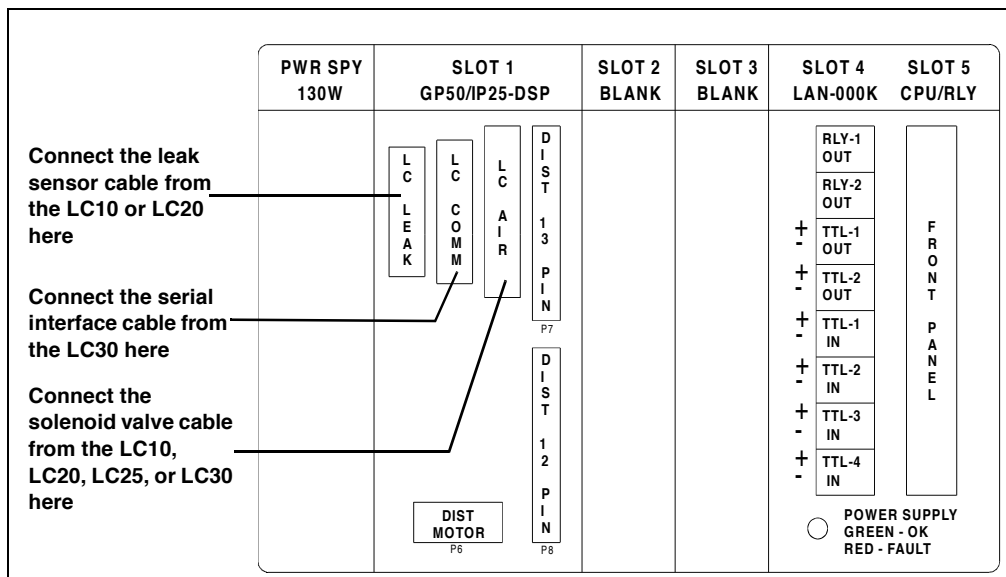

Figure B-2. GP50 Electronics Chassis
1. Route the leak sensor cable from the rear of the LC10 Chromatography Organizer or the LC20 Chromatography Enclosure through the GP50 upper phase (see Figure B-1). Connect the cable to the **LC LEAK** connector in slot 1 of the pump electronics chassis (see Figure B-2).
2. Route the solenoid valve cable from the rear of the LC10 or LC20 through the GP50 upper phase. Connect the cable to the **LC AIR** connector in slot 1 of the pump electronics chassis (see Figure B-2).
Route the electronics injection valve cable from the rear of the LC25 Chromatography Oven through the GP50 upper chase(see Figure B-1). Connect the cable to the **LC AIR** connector in slot 1 of the pump electronics chassis (see Figure B-2).
1. Route the RJ-11 serial cable from the rear of the LC30 Chromatography Oven through the GP50 upper chase (see Figure B-1). Connect the cable to the **LC COMM** connector in slot 1 of the pump electronics chassis (see Figure B-2).
2. Route the solenoid valve cable from the rear of the LC30 through the GP50 upper chase. Connect the cable to the **LC AIR** connector in slot 1 (see Figure B-2).
2. Remove any TTL/Relay plugs from the connectors at slot 4 of the electronics chassis (see Figure B-2).